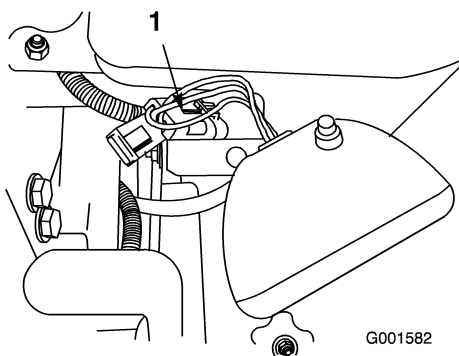

Figure 13
- Connect the side light wire connector to the light kit wire harness connector (Figure 13).
- Connect the 2 wire connectors of the front lights to the connectors on the light kit wire harness (Figure 13).